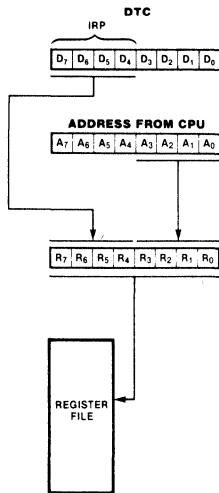

Figure 7. DSC Register Addressing Scheme
The master CPU also has direct access to 16 registers known as the DSC(Data, Status, Command) registers. The DSC registers are numbered 0 through F(DSCO-DSCF). These registers can be any 16 contiguous register file registers beginning on a 16-byte boundary. The base address of the DSC register group is designated by the IRP (I/O Register Pointer), which is bits D₄-D₇ of the Data Transfer Control register (OH). Figure 7 shows how the register address is made up of the 4-bit IRP field, concatenated with the low order 4-bits of the address from the master CPU.